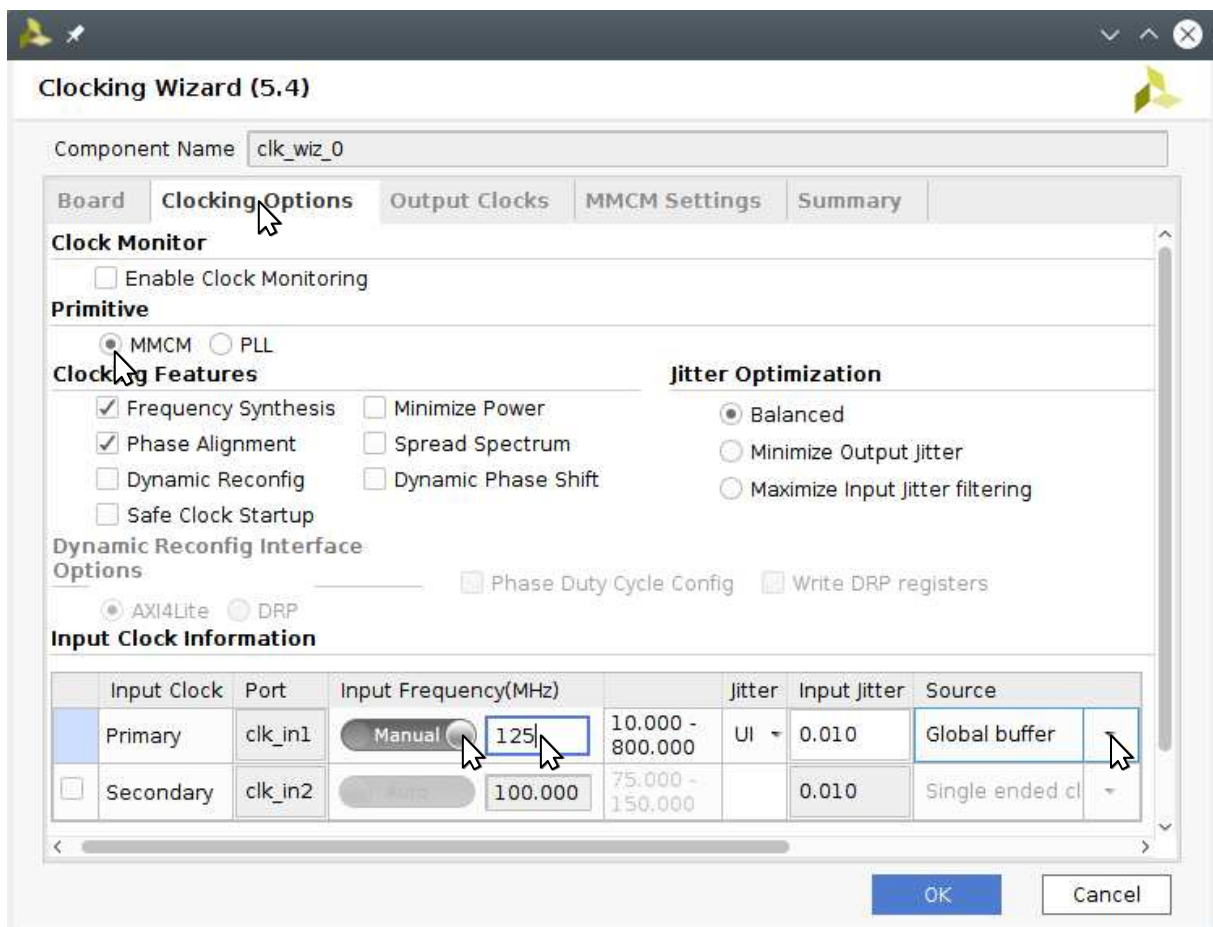
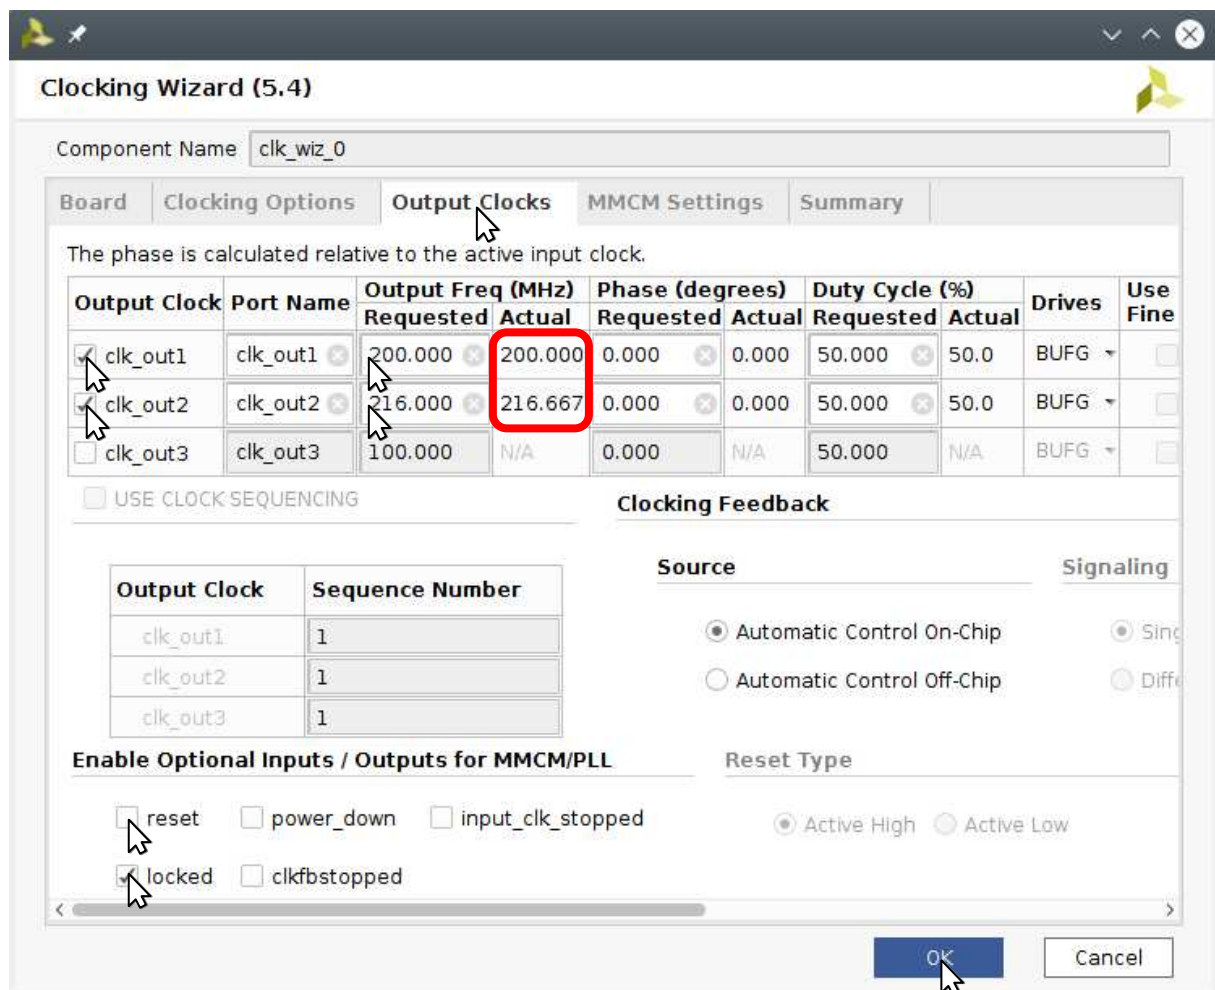

Figure 31: Re-customized “Clocking Wizard” to have a 125 MHz input clock
Figure 32: Re-customized "Clocking Wizard" to have 200 MHz and 216 MHz output clocks as well as disable the reset input
- p) The block design needs two different clocks. It requires a 200 MHz clock to be connected to the RefClk input port of the VideoSource IPB as well as a 216 MHz clock at which your IPBs will run and, thus, has to be connected to the Clock input ports of the IPBs. Thus, customize the “Clocking Wizard” IPB to convert from the system clock to the 200 and 216 MHz clocks. For this purpose, you customize the input of the “Clocking Wizard” to be 125 MHz as shown in Figure 31. Then, switch to the **Output Clocks** tab (see Figure 32) and select a 200 MHz clock as output on port clk_out1 and a 216 MHz clock as output on port clk_out2. Please check that the “Clocking Wizard” will really generate these clock frequencies by checking the **Actual Output Freq** column (boxed red in Figure 32). Moreover, disable the reset input pin.